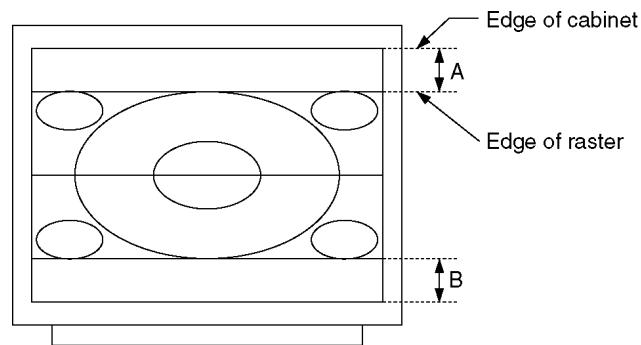

Fig. 7
4. Confirm that A, B in the Fig. 7 is  $6.0\text{cm} \pm 1\text{cm}$ , if not, adjust V-AMP (100i / 16:9).
6. Confirm that A, B in the Fig. 7 is  $6.0\text{cm} \pm 1\text{cm}$ , if not, adjust V-AMP (50p / 16:9).
9. Confirm that A, B in the Fig. 7 is  $6.0\text{cm} \pm 1\text{cm}$ , If not, adjust V-AMP (120i / 16:9).
11. Confirm that A, B in the Fig. 7 is  $6.0\text{cm} \pm 1\text{cm}$ , If not, adjust V-AMP (60p / 16:9).